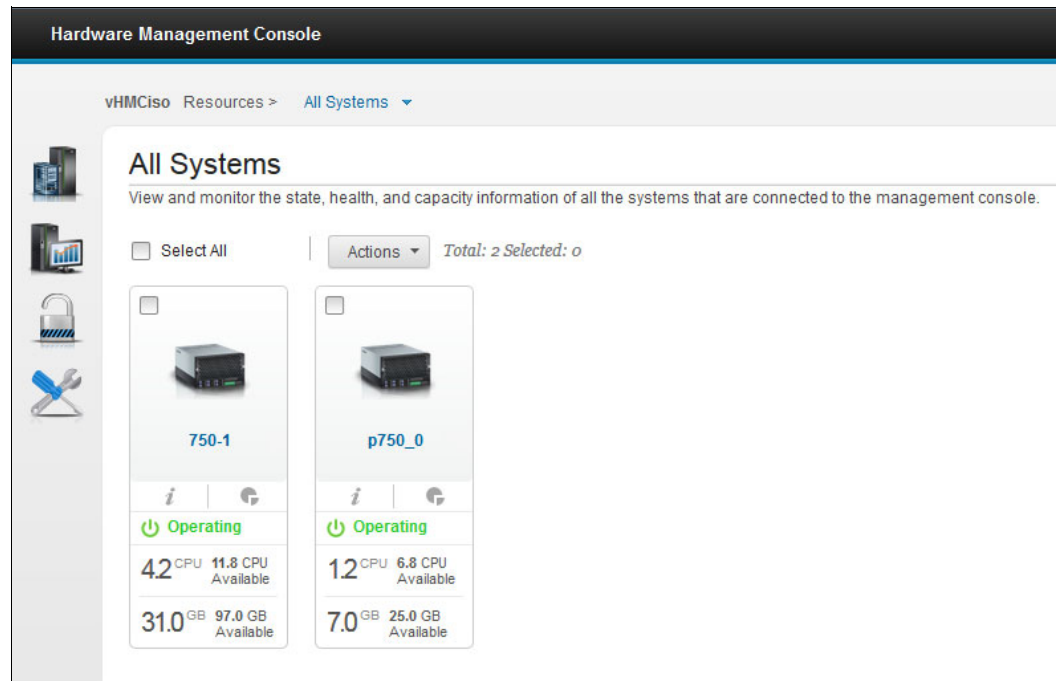

Figure 6-1 HMC Hardware Resources Menu
1. In the navigation area, click the **Resources** icon, and then select **All Systems**. The All Systems pane opens (Figure 6-1).